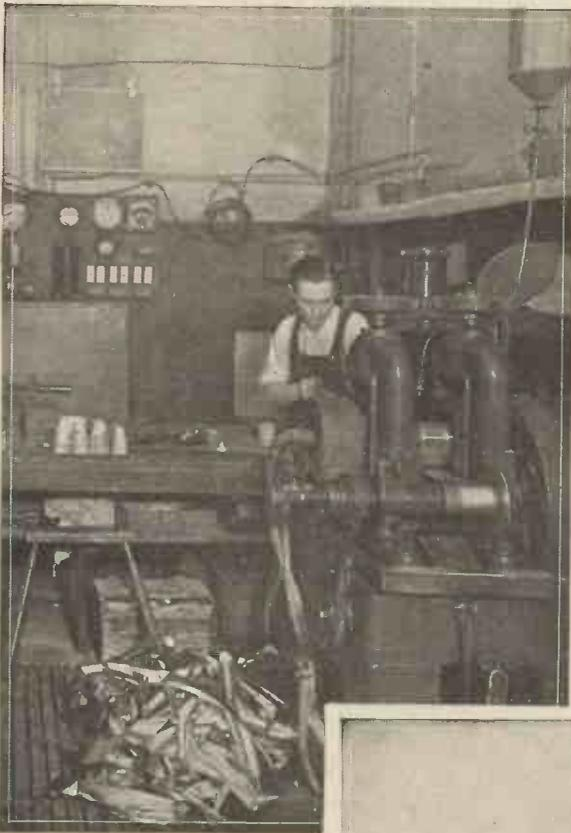

Fig. 2.—This simple machine, the only machinery used, rolls the ingot repeatedly into thin ribbons.
**N**OT only does gold itself defy change, but the methods of producing it do too! There has been no material difference in either the methods or the tools used, as far back as can be traced. Like the mason's mallet, the gold-beater's hammer and the marble block on which he beats are not only similar, but in many cases these apparently primitive tools have actually been in use by several generations, to the extent that dents are worn in the marble slabs where son, father, and grandfather have pressed their left thumbs. The only machinery used is in the preliminary preparation of the metal. The gold is first melted in small crucibles (see Fig. 1) where it is cast into ingots measuring 6 x 1 in., and  $\frac{1}{4}$  in. thick. These ingots are passed through rollers as many times, and with as many increases of pressure, as turn them into golden ribbons just  $1\frac{1}{2}$  in. wide, and a "thou." thick. This is the only part in which machinery, and that of a simple kind, is used, as shown in Fig. 2. This gold ribbon is then cut with scissors into inch squares, when they are ready for beating by hand.